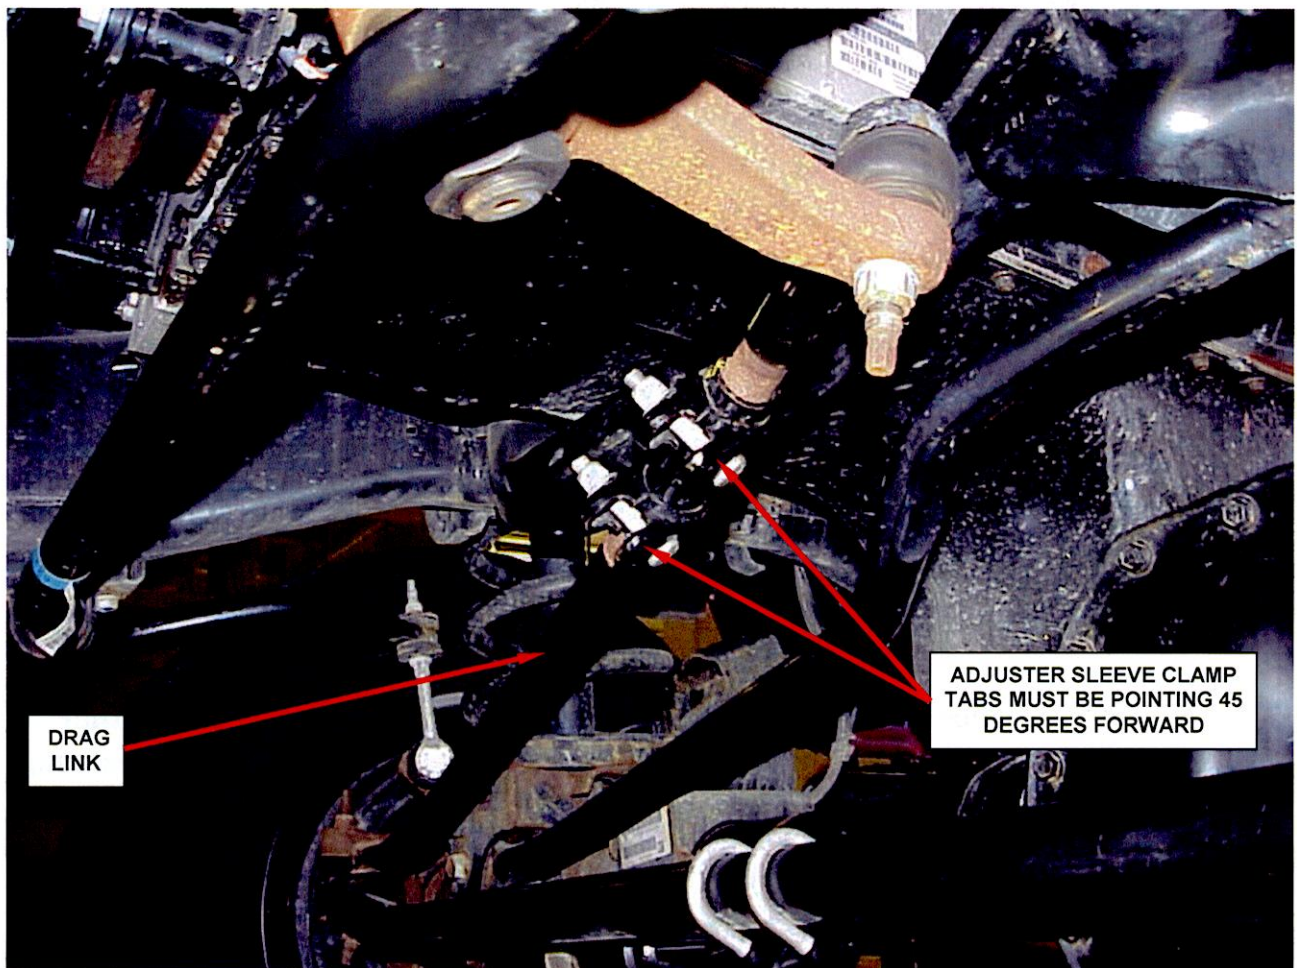

Figure 7 – Adjuster Sleeve Clamp Tabs at 45 Degree Angle
**CAUTION:** The drag link adjuster sleeve clamp tabs must be pointing 45 degrees forward before tightening (Figure 7). Do Not allow the adjuster sleeve clamp tabs to hang straight down.